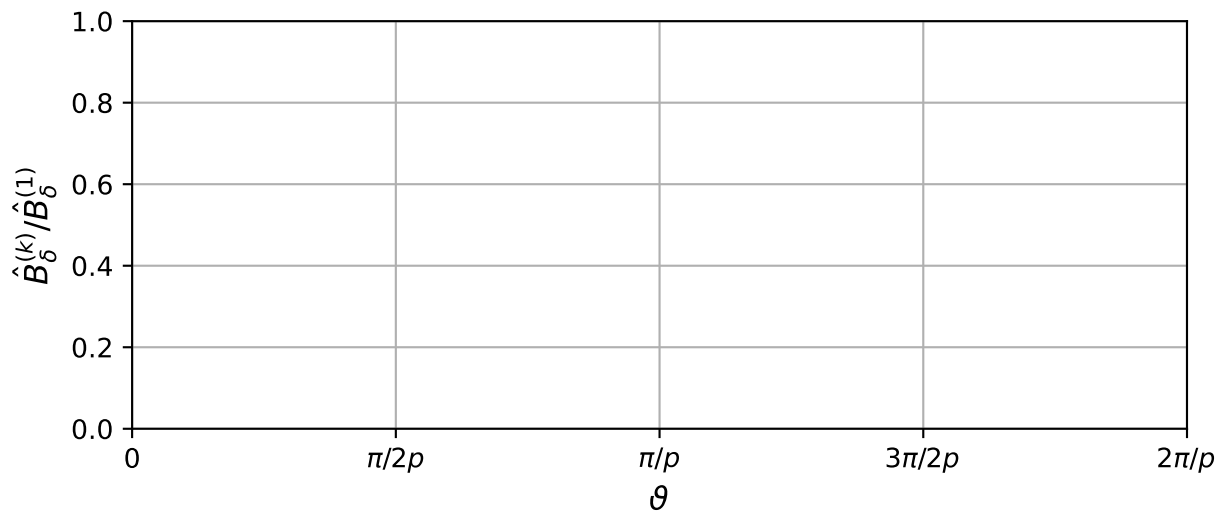

Figure 4: Template to draw the flux densities over the stator circumference ϑ .
4.5 Assume that the flux density in the air gap is a superposition of sine waves. Draw the trajectories of the flux densities $B_\delta^{(1)}(\vartheta)$ and $B_\delta^{(3)}(\vartheta)$ for one phase in the template (Fig. 4). [2 Points]